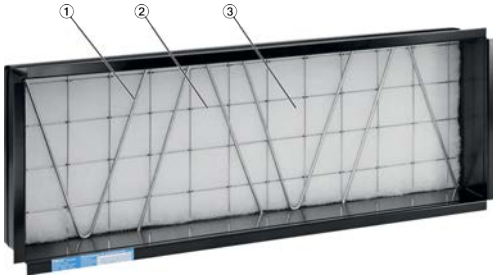

Fig. 15: Filter change
2. ▶ Remove the metal angled support rod (Fig. 15/1) and the front support wire (Fig. 15/2).
3. ▶ Pull out the contaminated filter (Fig. 15/3) and dispose of it.